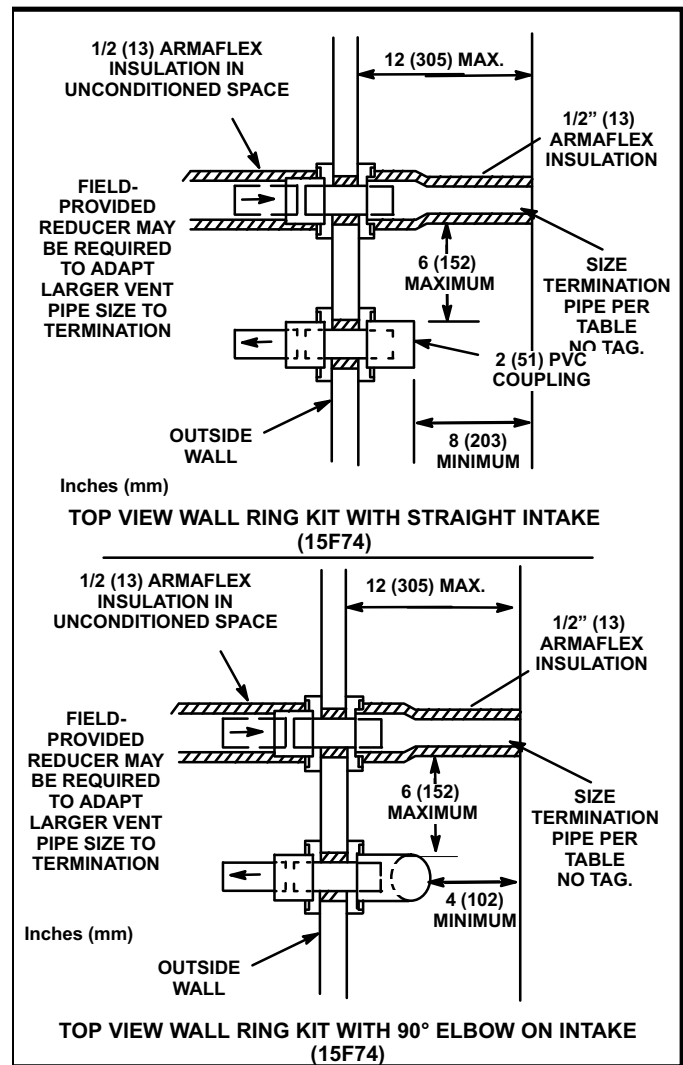

FIGURE 26
5. On field supplied terminations for side wall exits, exhaust piping should extend a maximum of 12 inches (305mm) beyond the outside wall unless supported. Intake piping should be as short as possible. See figure 26.